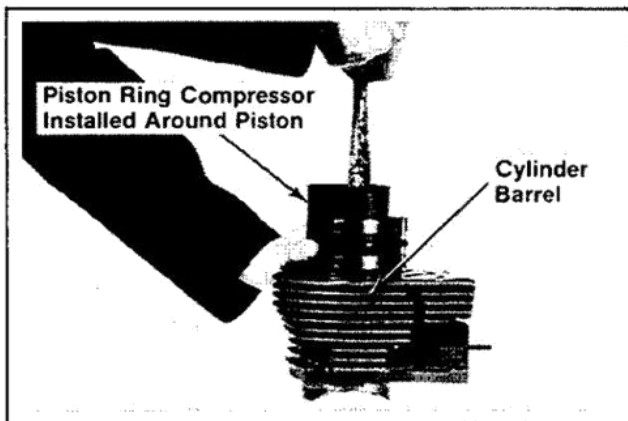

Figure 11-29. Installing Pistons.
2. Lubricate the pistons and rings with engine oil. Install piston ring compressor around pistons. Refer to Figure 11-29.
Gently push the pistons into cylinder bores from cylinder head side—do not pound on piston. Refer to Figure 11-29.